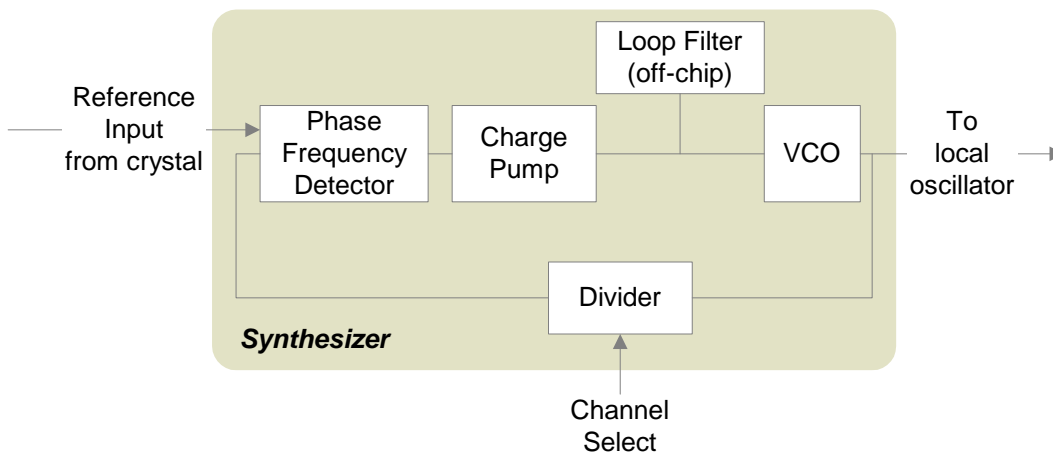

Figure 2-4. RF Synthesizer Block Diagram
The synthesizer is a phase-locked loop (PLL) that generates the local oscillator (LO) frequencies for the receiver and transmitter mixers. The topology of the synthesizer is shown in Figure 2-4. A signal generated from a 32 MHz crystal is used as the reference input for the synthesizer. See “Bias/Control (BIAS) Block” on page 5 for more details. An on-chip